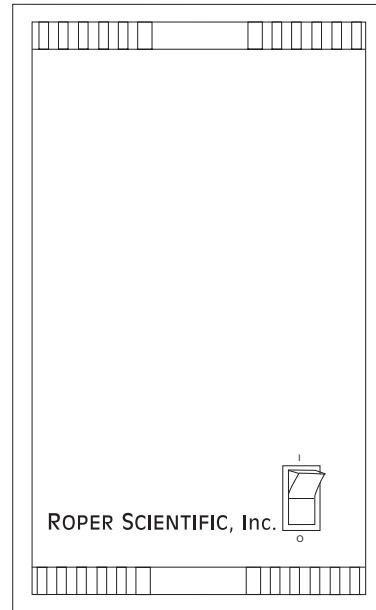

Figure 49. Controller Front Panel
**POWER Switch and Indicator:** The power switch, located on the front panel as shown in Figure 49, interrupts both sides of the controller's AC power input. The switch's integral indicator LED lights whenever the ST-133A Controller is powered. Note that, when the power switch is actuated, there may be a few seconds delay before the indicator lights. This is normal and in no way indicative of a malfunction.